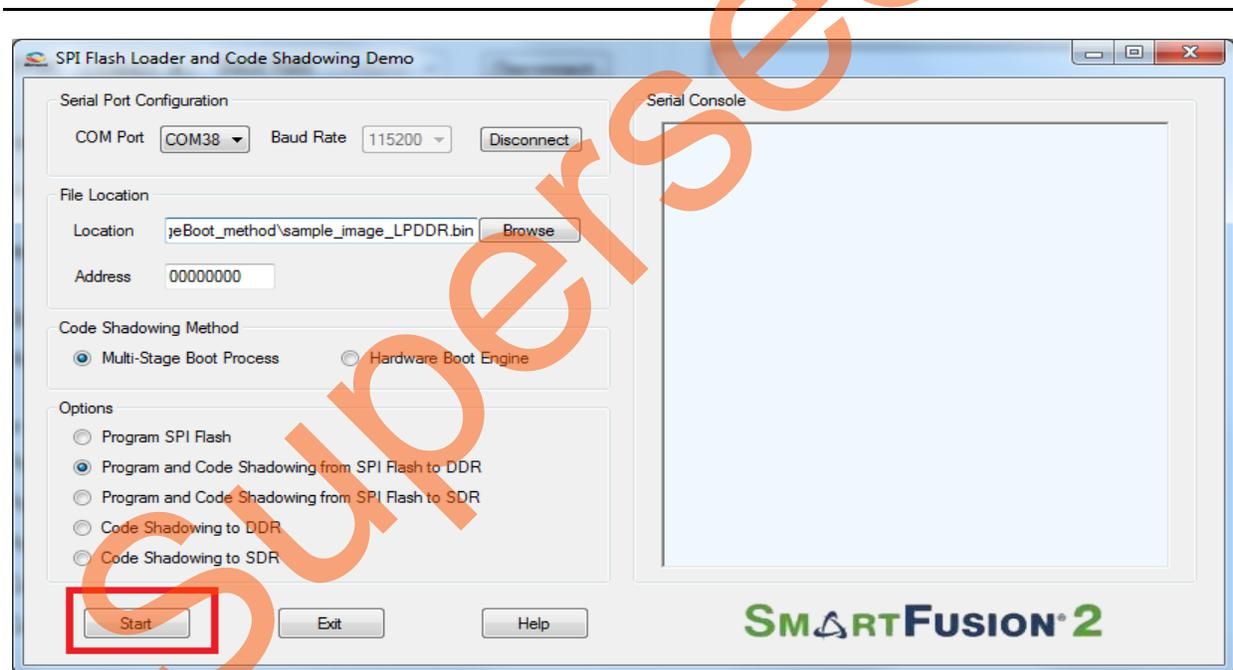

Figure 10 • Starting the Demo
9. Click **Start** as shown in Figure 10 to load the executable image into SPI flash and code shadowing from DDR memory.